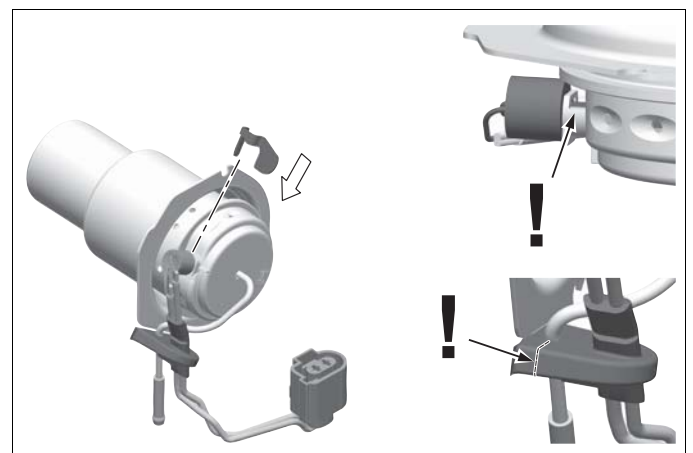

Fig. 28 Fit cooling flag
3. Hold the cooling flag (B3) in the groove (B11) with your hand on the glow plug mandrel (B8) (see Fig. 28 and Fig. 31).